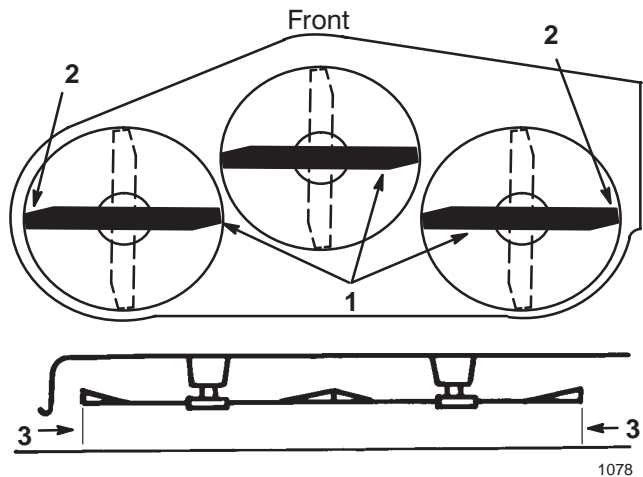

Figure 39
6. Carefully rotate the blade(s) from side to side (Fig. 39). Measure between the outside cutting edges and the flat surface (Fig. 39). If both measurements are not within 3/16 inch (4.75 mm), an adjustment is required; refer to steps 7 and 8.